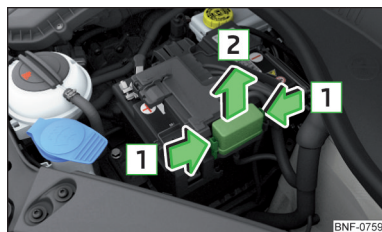

Fig. 139
The fuses are located underneath a cover next to the vehicle battery » Fig. 139.
- Press the locking keys **1** of the cover » Fig. 139 together simultaneously.